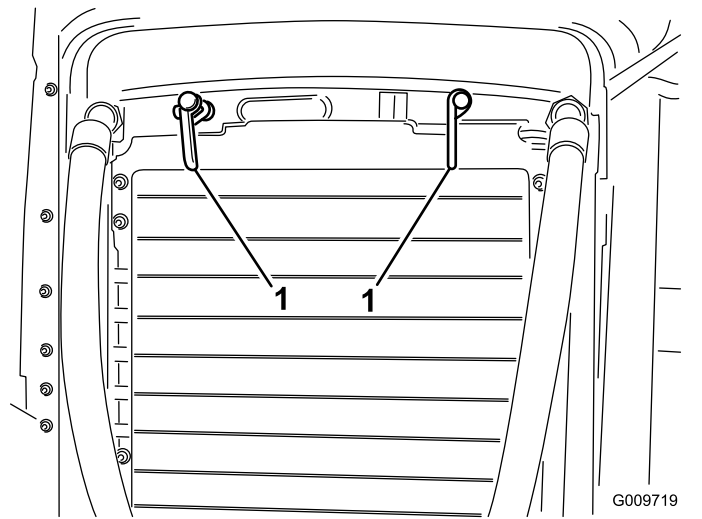

Figure 52
2. Rotate latches (Figure 52) securing the oil cooler to the frame.